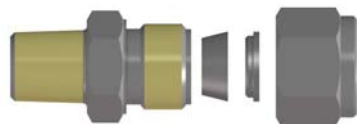

Figure 1
- 3.1 Check that the compression ring fitting has been assembled correctly. Figure 1 shows the component parts of a screw fitting and the direction in which they are assembled.